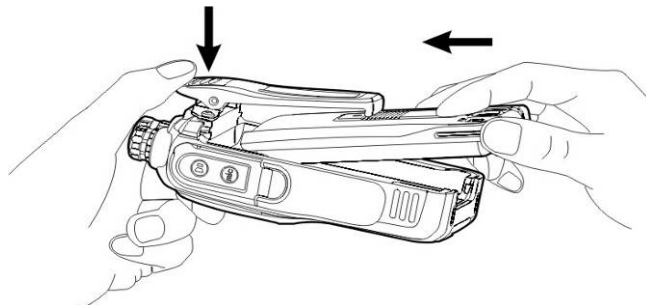

Figure 1
- ① Hold the battery and push it towards the top of the aluminum chassis under the belt clip of the radio. See figure 1.